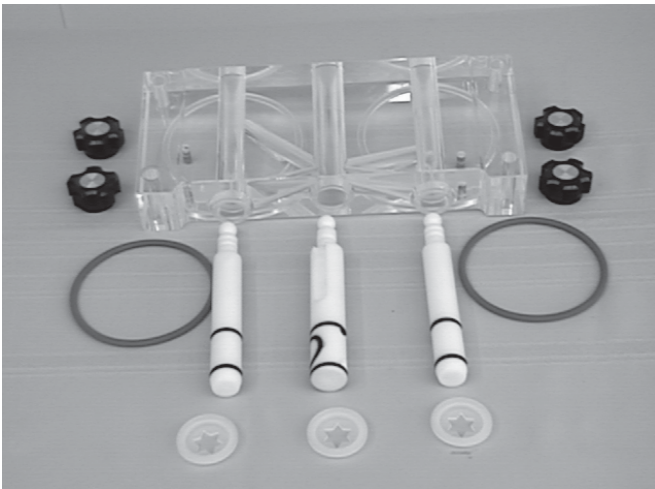

Figure 20. Front Door Disassembly
- C. Remove the rosette caps from the front door. Push the spigot body through the bottom of the front door and remove. (Fig. 20).